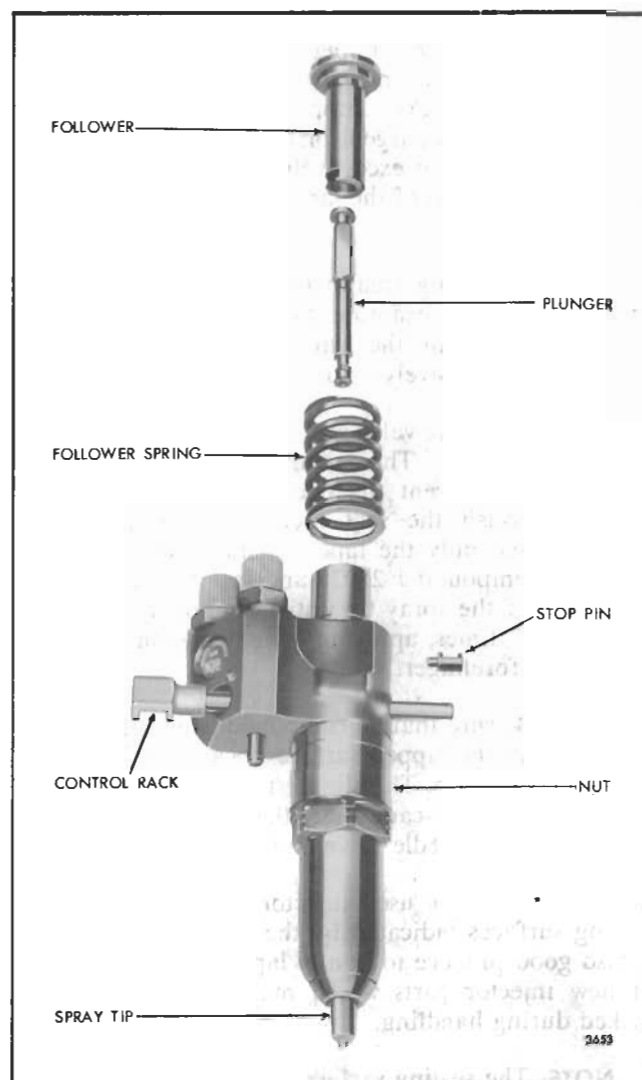

Fig. 38 - Injector Plunger, Follower and Relative Location of Parts
1. Refer to Fig. 38 and slide the head of the plunger into the follower.